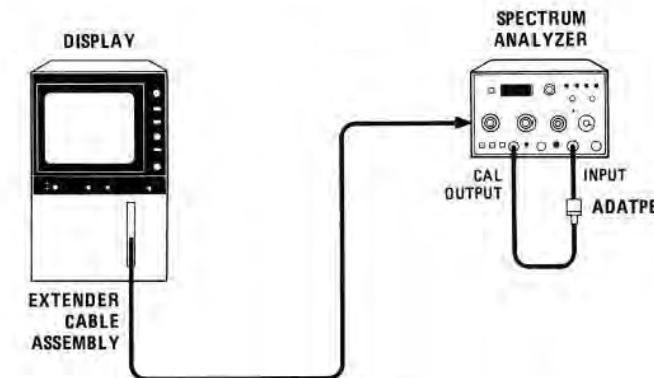

Figure 7-11. Crystal and LC Bandwidth Filter Adjustment Test Setup
- Connect equipment as shown in Figure 7-11.